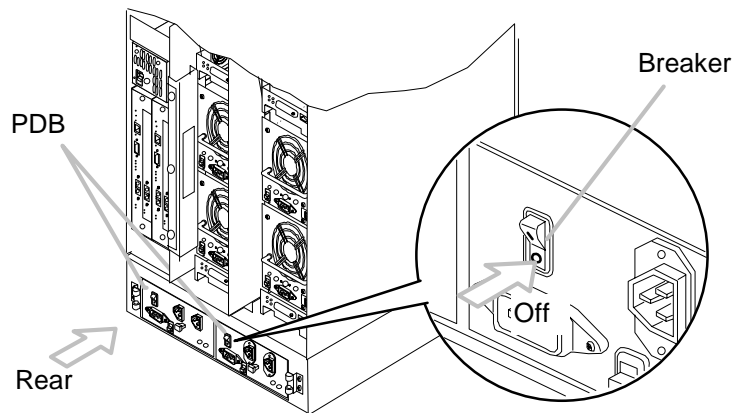

Figure 4.25 Breaker
2. Set all the breakers in the PDBs to off. (see figure 4.25)
4. Connect power cables. There are four power cables : two milk white cables and two yellow cables. Connect the power supply #0 to the PDB #0 with the milk white power cables and the power supply #1 to the PDB #1 with the yellow cables. (see figure 4.25, 4.26)